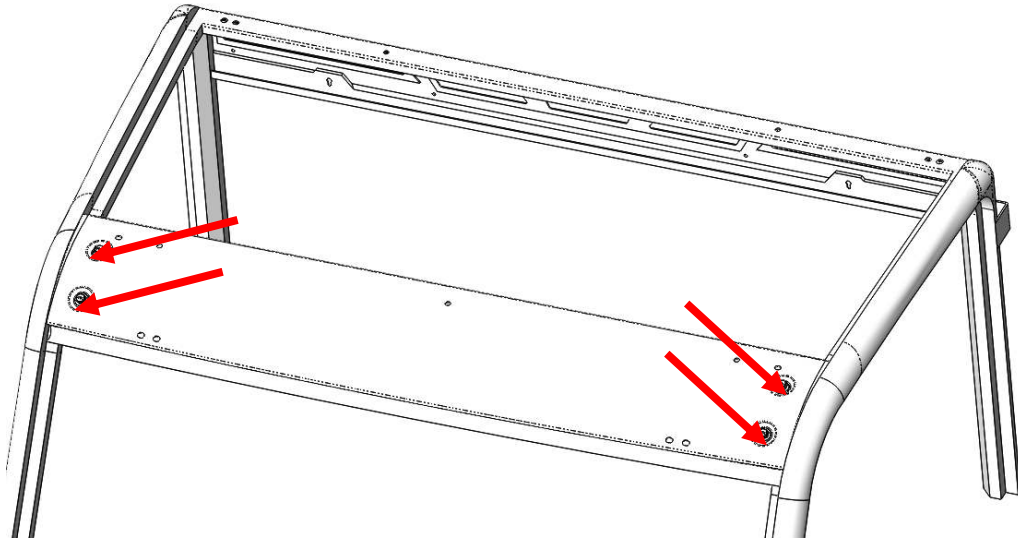
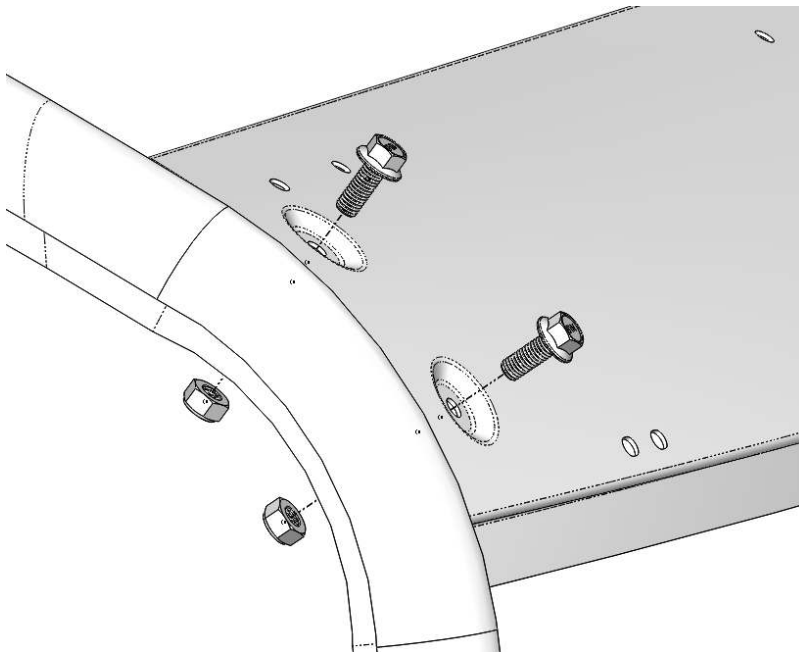

Figure 3: Remove the factory visor hardware.
Figure 4: Close up of visor hardware.
1. Remove the factory bolts and nuts from the visor. Save the hardware for installation. **Note: If you have a roof installed, you will need to remove the roof or loosen the front mounting bolts to gain access to the visor bolts.** See Figure 3 and Figure 4.